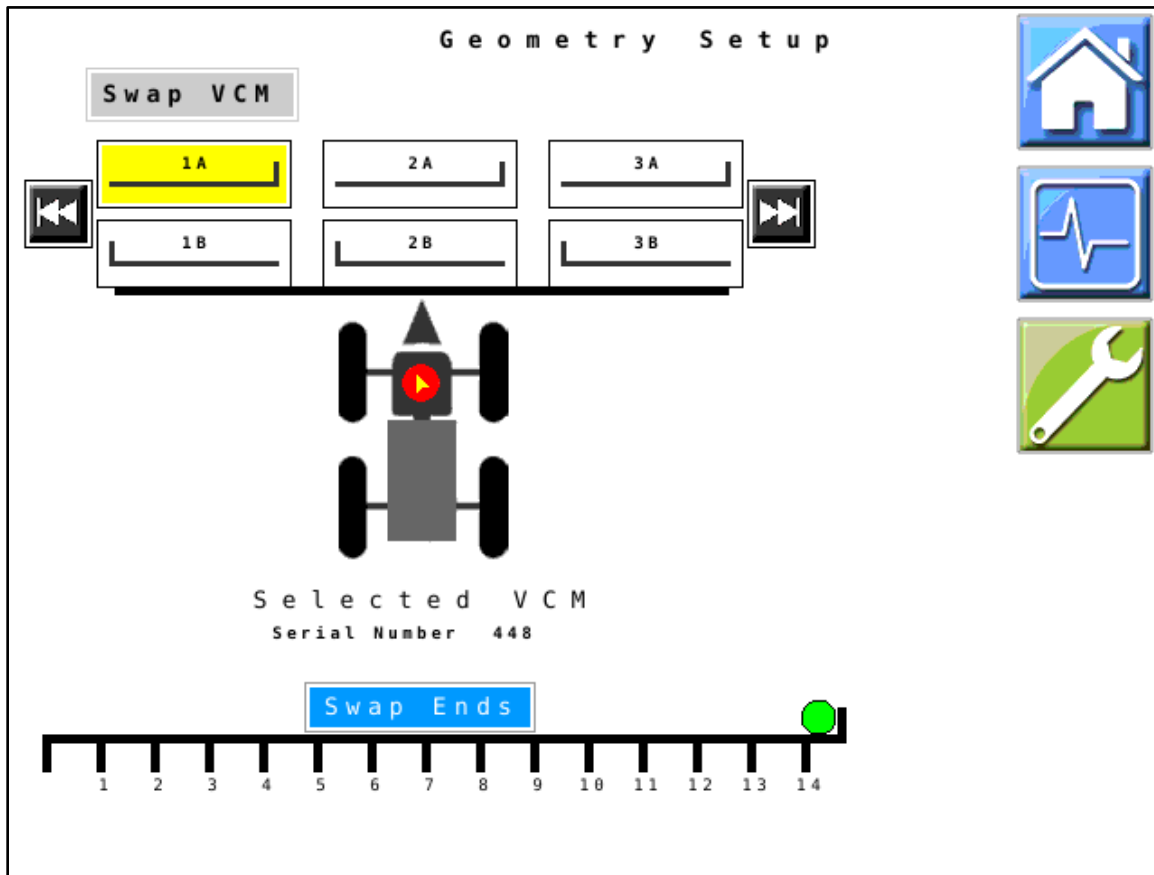

Figure 5 — Geometry Setup – Legacy VCMs
11. **Figure 5:** VCMs must be in the correct order and orientation on the boom. Tap the **Swap Ends** button with the highlighted VCM to orient the VCM correctly on the boom, if necessary. VCMs can be mounted with the tube towards the center of the machine (**green dot**) and the pigtail running towards the outside tip, or vice versa. If two VCMs are located on the same hub CAN channel, use the **Swap VCM** button with these VCMs highlighted to orient them correctly left to right, and then make sure the orientation (swap ends) is correct.